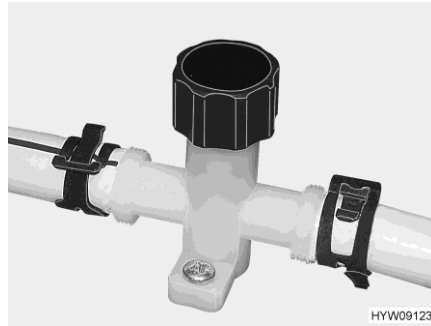
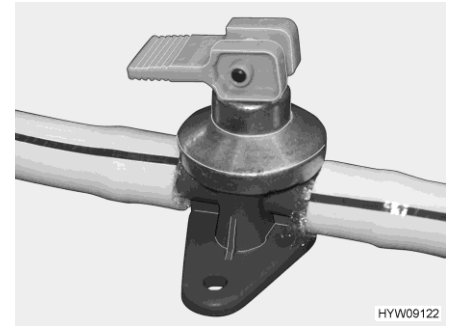

Fig. 207 Drain cock (water pipe)
Fig. 208 Drain cock (Alde boiler)
- Close drain cocks (Fig. 207 and Fig. 208). To do so, close the caps by turning them in a clockwise direction and set the rocking lever in a horizontal position. The position of the safety/drainage valve and the drain cocks is specified in the section 10.7 at the end of this chapter.